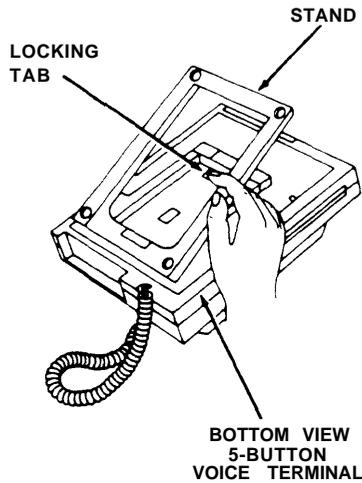

Figure 2
2. Depress the locking tab of the 5-Button Voice Terminal (see Figure 2).